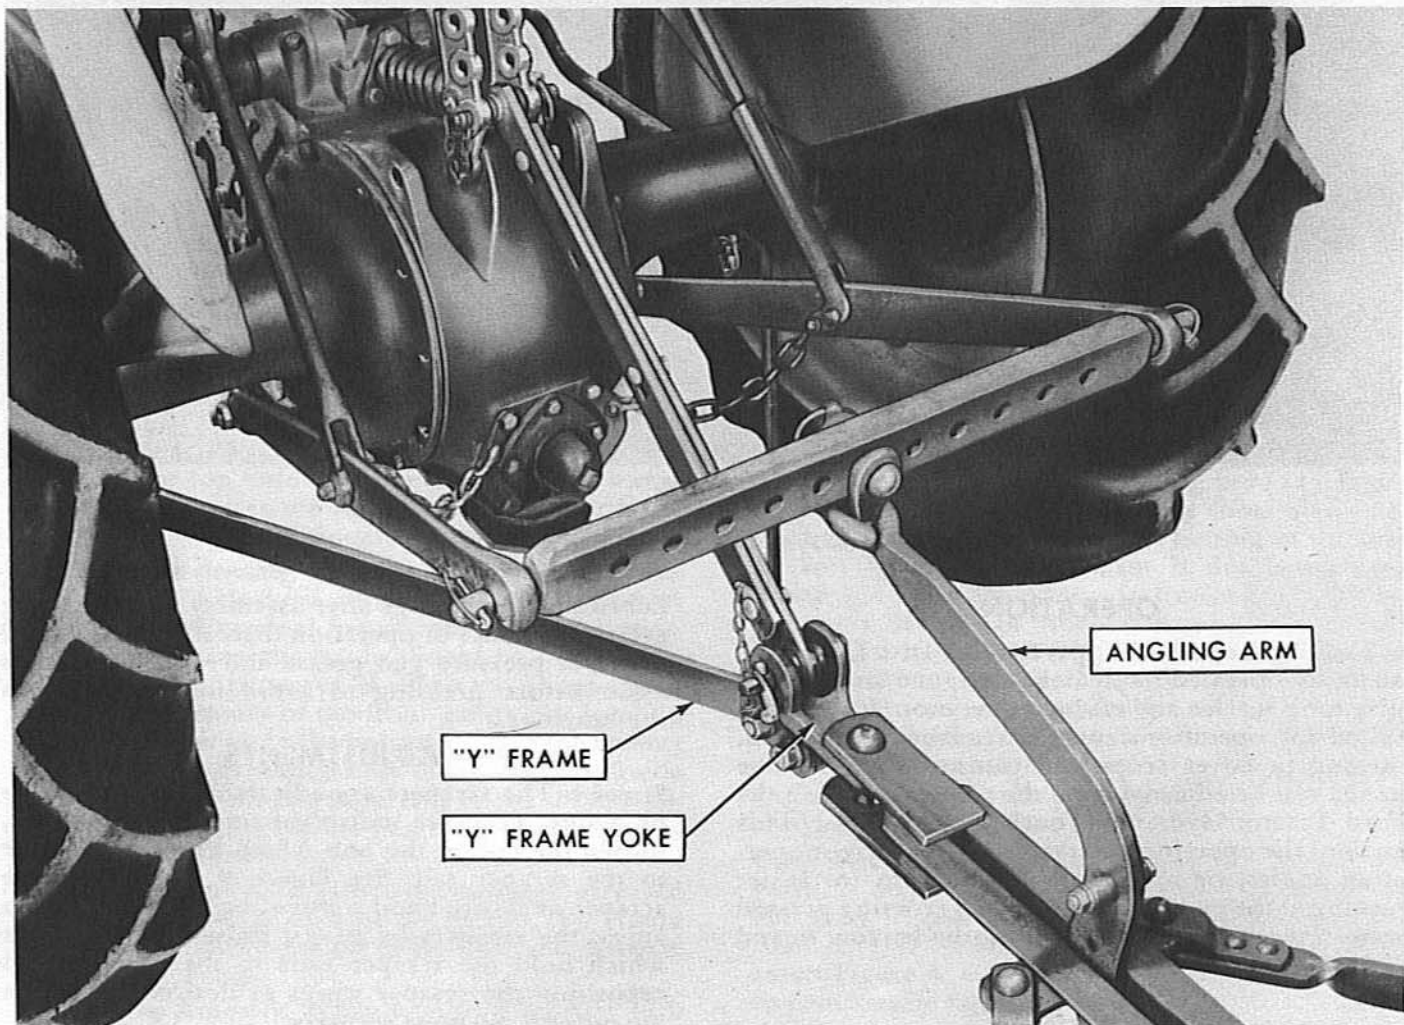

Figure 7
2. Attach the "Y" frame to the stabilizer brackets (sold separately) on the tractor rear axle housing as shown in Figure 7.